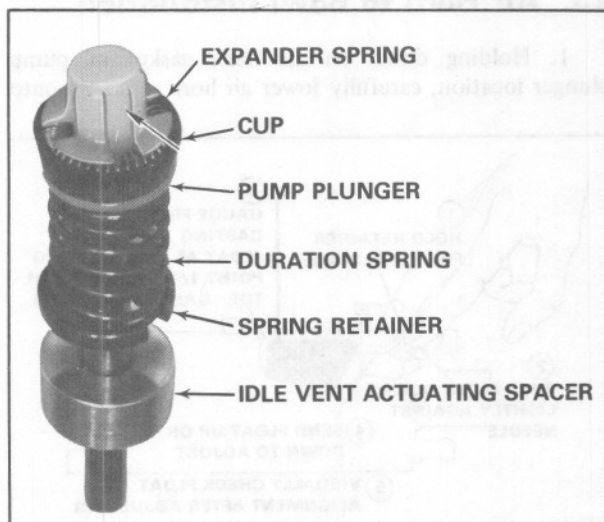

Fig. 6-41 Accelerator Pump
20. Install bowl vent valve spacer on pump plunger stem, Fig. 6-41. Carefully lift one corner of the air horn gasket and install pump plunger in the pump well by pushing the plunger to the bottom of the well against return spring tension. While holding in this position, align pump plunger stem with hole in gasket and press gasket in place.